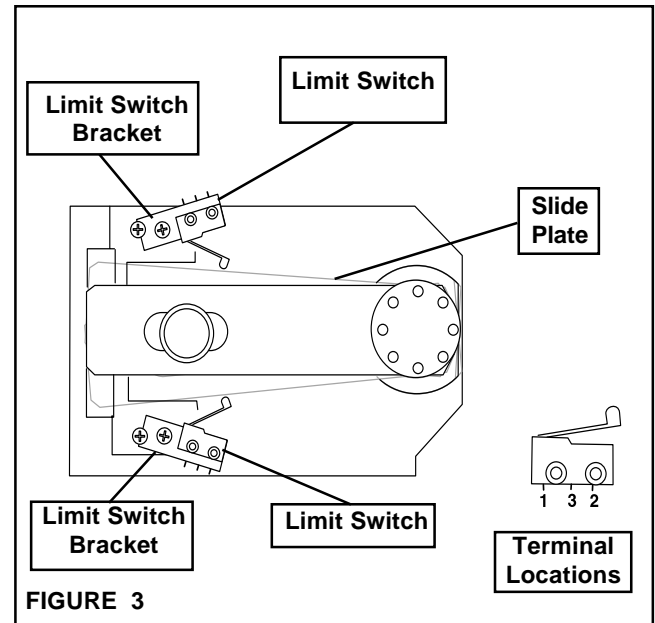

FIGURE 3
1. Loosen the Limit Switch Brackets and slide them to their fully outward position (See Figure 3).
3. Using the Controller switches to actuate the motor, move the Slide Plate in one direction until the desired end of travel is reached (See Figure 3).
4. Connect a voltmeter across Terminals 1 and 2 of one Limit Switch (See Figure 3).
6. Tighten the Pan Head Screws holding the Limit Switch Bracket (See Figure 3).
7. Repeat Steps 3 through 6 for the second Limit Switch (See Figure 3).